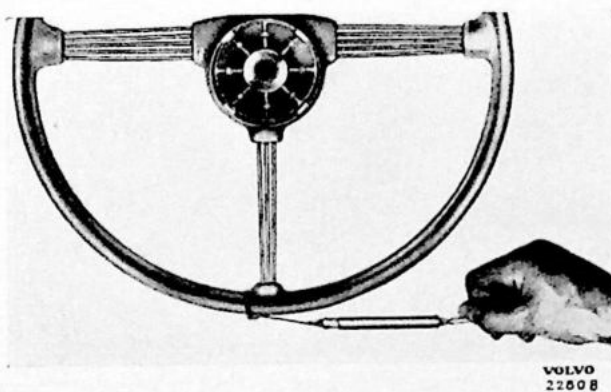

Fig. 30. Measuring steering wheel turning torque.
7. Fit the steering wheel and attach a spring balance as shown in fig. 30. Screw down the adjuster screw until a force of 0.4—0.7 kg (14 oz.—1½ lb.) is required to turn the steering wheel past the central position.